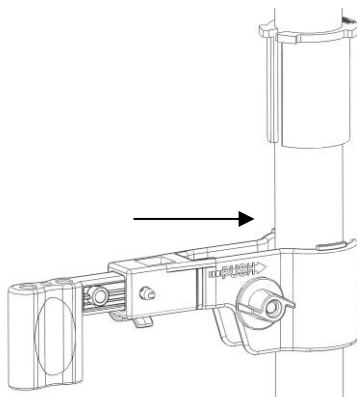
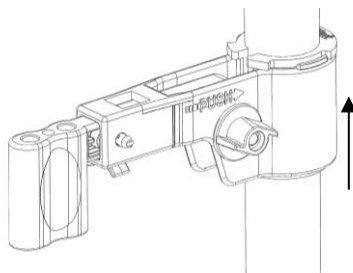

Fig. 2.4
Fig. 2.5
- j. Push clamp opening straight onto frame, below the rubber sleeve. (Fig. 2.4) Then slide clamp up and over the rubber sleeve. (Fig. 2.5) This allows you to install the clamp without pulling the clamp mouth open.